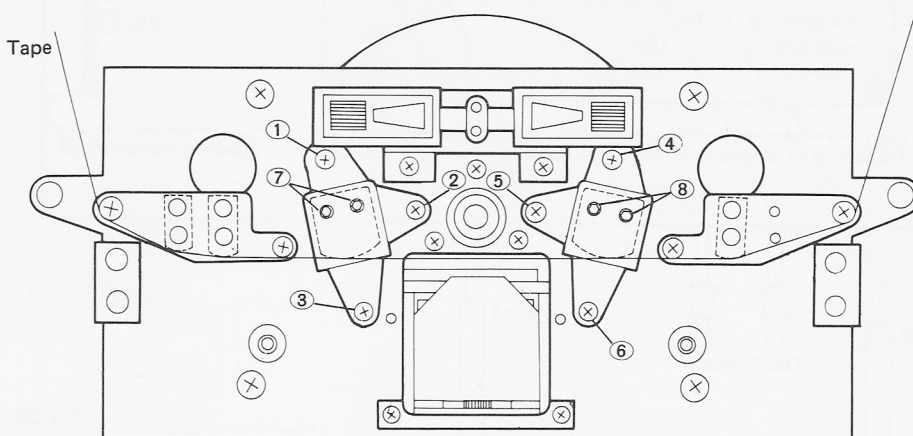

Fig. 19
3. To readjust, turn Philips head screws 1, 2 and 3 in Fig. 19.
2. To readjust, turn screws 4, 5 and 6 in Fig. 19.
4. In forward tape motion, both VTVMs should indicate maximum output level. Re-adjustment: screws 1 and 3 in Fig. 19.
5. Turn test tape over, re-thread. Put tape deck in reverse play motion. Adjust screws 4 and 6 in Fig. 19 to obtain maximum reading on both VTVMs.